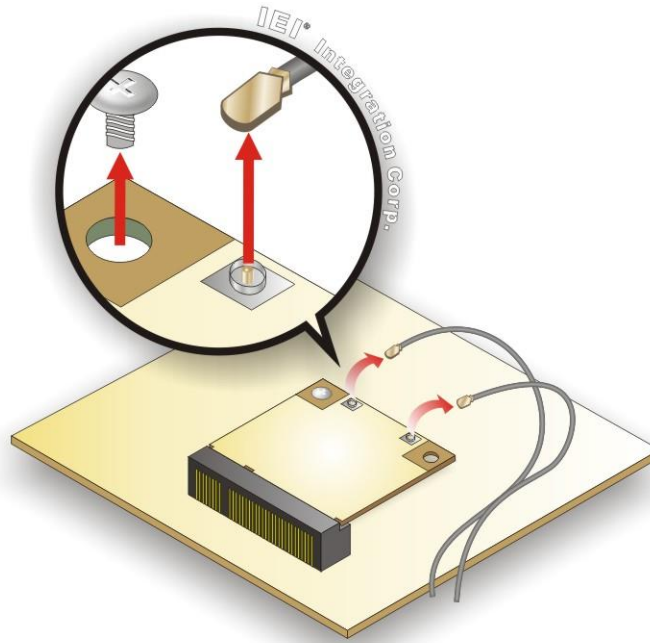

Figure 4-2: Releasing the WLAN Module
Step 5: Disconnect the antenna cables on the WLAN module and remove the retention screw to release the WLAN card (**Figure 4-2**).